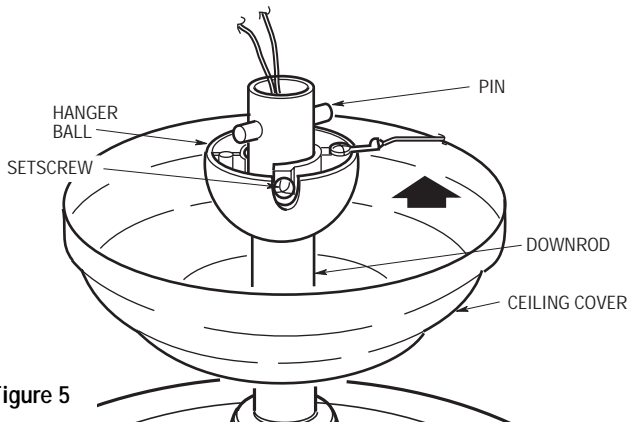

Figure 5
4. Position the ceiling cover over the downrod. Be sure the cover is oriented correctly, with the large opening at the top (Figure 5).
5. Reinstall the hanger ball (Figure 5) on the downrod as follows. Route the two 80" motor leads through the hanger ball. Position the pin through the two holes in the downrod and align the hanger ball so the pin is captured in the groove in the top of the hanger ball. Pull the hanger ball up tight against the pin. **Securely tighten the setscrew in the hanger ball. A loose setscrew could create fan wobble.**